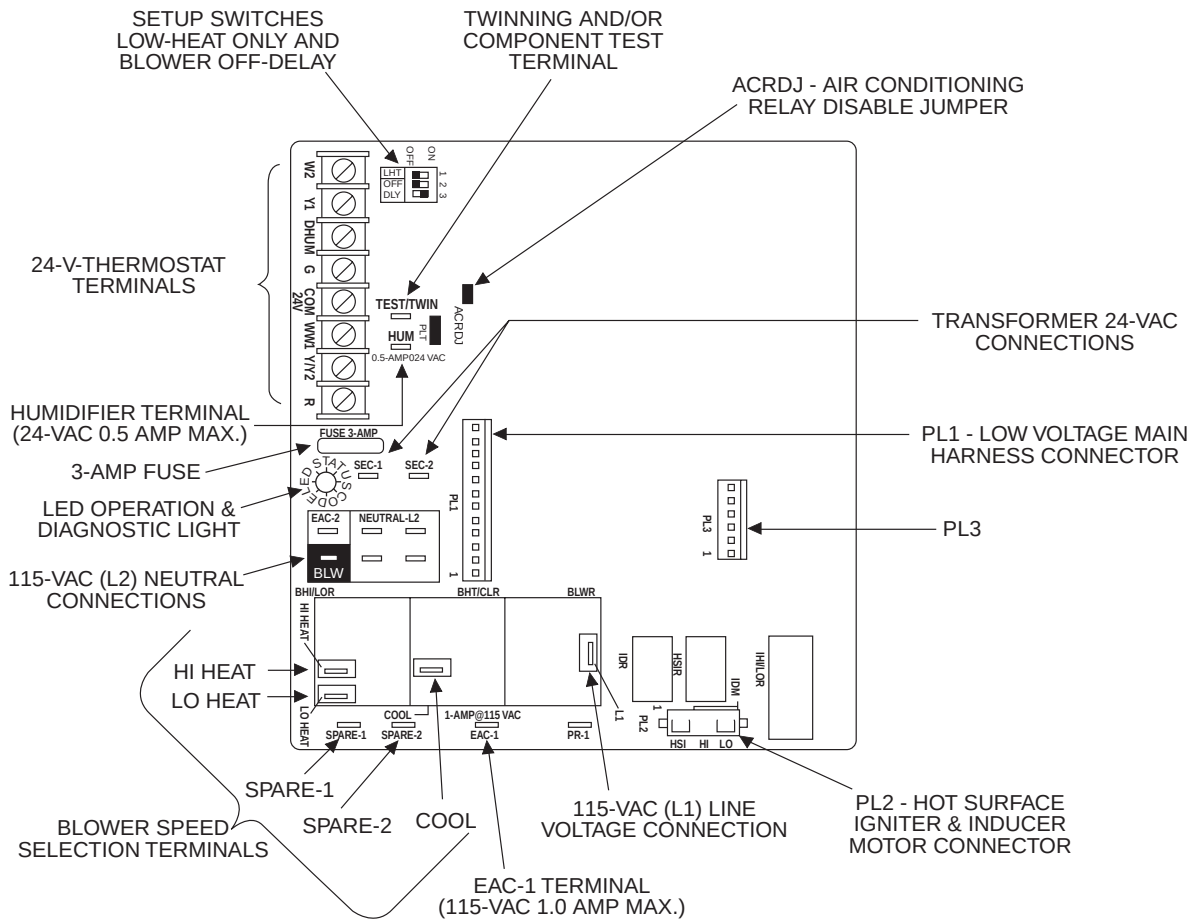

Fig. 12—Two-Stage Control
The 24-v circuit contains an automotive-type, 3-amp fuse located on the control center. (See Fig. 12.) Any direct shorts of the 24-v wiring during installation, service, or maintenance will cause this fuse to blow. If fuse replacement is required, use **ONLY** a 3 amp fuse. The control LED will display status code 24 when fuse needs to be replaced.
4. For approximately 2 sec, short (jumper) the COM-24v terminal on control to the TEST/TWIN 3/16-in. quick-connect terminal on control until LED turns off. Remove jumper from terminals. (See Fig. 12.)